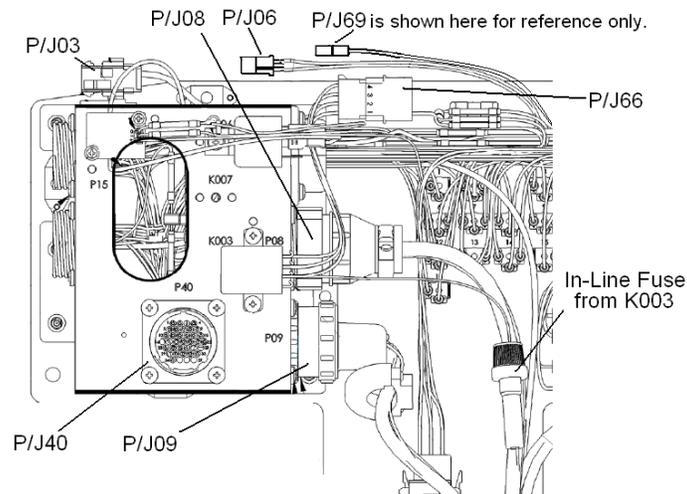

Figure 53-19 Port Side of the Power Distribution Harness
12. Connect P08, P09, and P40 from their connectors on the left hand bracket on the power distribution harness. See Figure 53-19 for the location of P/J08, P/J09, and P/J40.
13. Find the in-line fuse connected to relay K003. Connect the fuse from the wiring harness. See Figure 53-19 for the location of the fuse associated with K003.